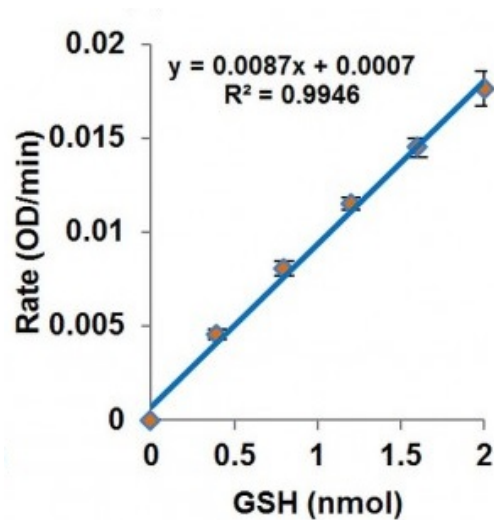

Figure 2. GSH Standard Curve, results from multiple experiments.
- 10.2 Subtract 0 Standard Rate from all Standard Rates. Plot the GSH Standard Curve Rate (OD/min) vs. GSH (nmol/well) and obtain the slope of the curve (Fig 2).